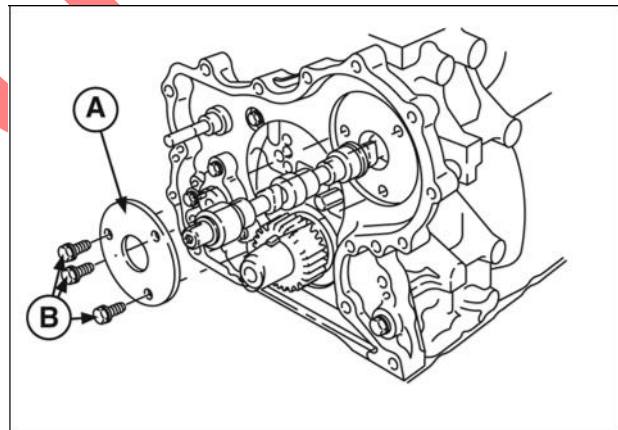

Figure 12
6. Install camshaft retainer (A, Figure 12).
7. Install three screws (B) and torque to values listed in Section 14 - Engine Specifications.